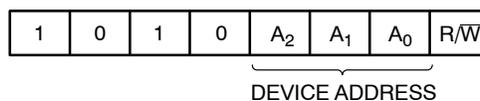

Figure 3. Slave Address Bits
The Master addresses a Slave by creating a START condition and then broadcasting an 8-bit Slave address. For the CAV24C64, the first four bits of the Slave address are set to 1010 (Ah); the next three bits, A2, A1 and A0, must match the logic state of the similarly named input pins. The R/W bit tells the Slave whether the Master intends to read (1) or write (0) data (Figure 3).